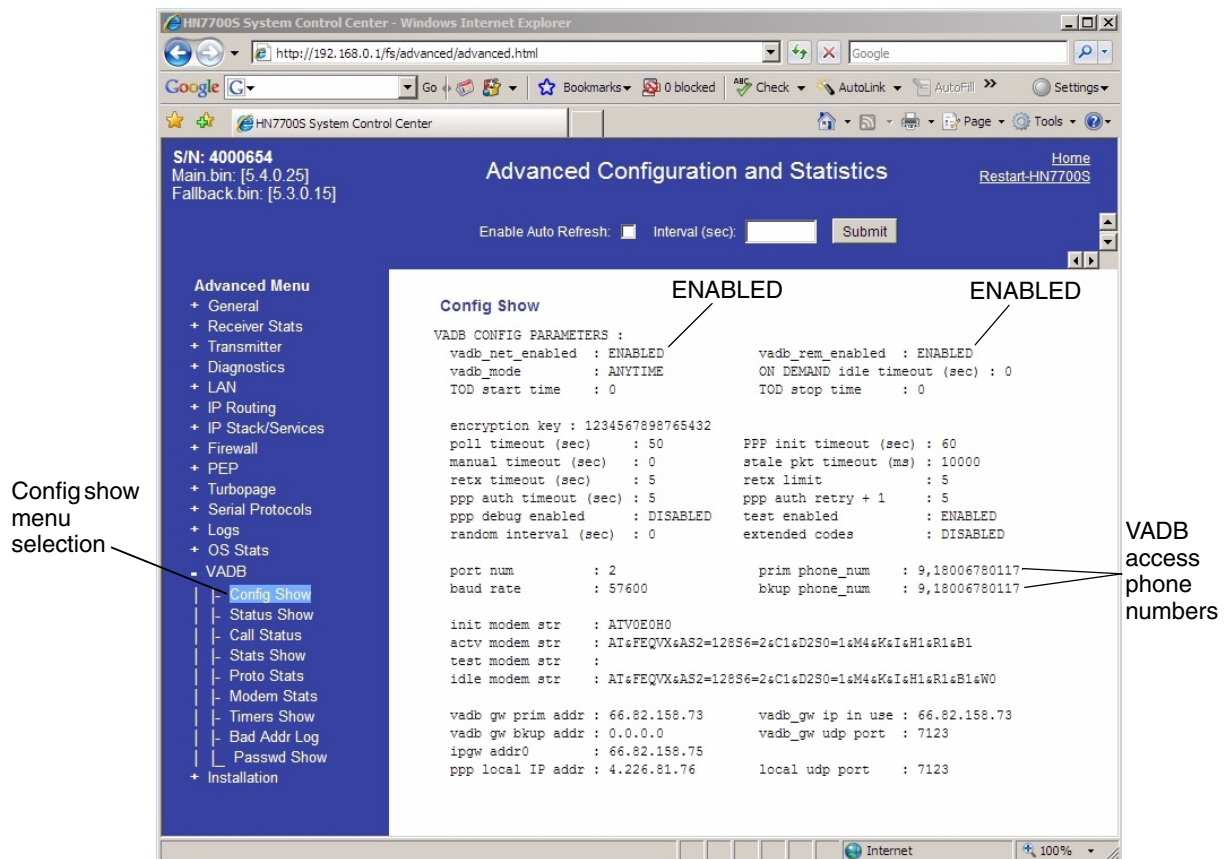

Figure 52: Verifying that the VADB profile is loaded
1. Access the Advanced Configuration and Statistics pages shown in Figure 52 by typing **192.168.0.1/fs/advanced/advanced.html** in the browser address bar and pressing **ENTER**.
The VADB gateway address appears on the VADB Config Show page (Figure 52 on page 59).
3. Connect a telephone handset to the telephone jack or splitter and dial the VADB access phone number listed in the `prim_phone_num` field. (See Figure 52 on page 59.)